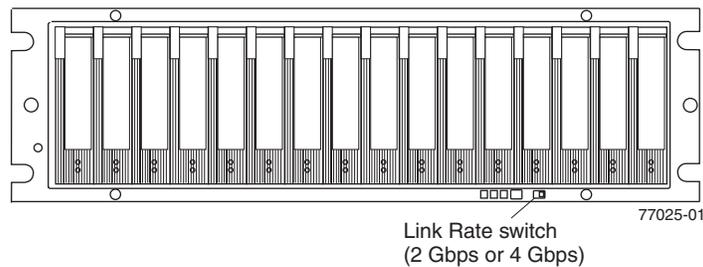

Figure 105. Link rate switch
A Link Rate switch is located on the front of the storage subsystem as shown in Figure 105 on page 155. The Link Rate indicator LEDs are located on the back of the storage subsystem. The Link Rate switch enables you to select the data transfer rate between the controllers and the drives to either 2 Gbps or 4 Gbps. The Link Rate switch is only read when the storage subsystem is powered up.
4. Locate the Link Rate switch. Figure 105 shows the location of the Link Rate indicator light on the front of the command module.